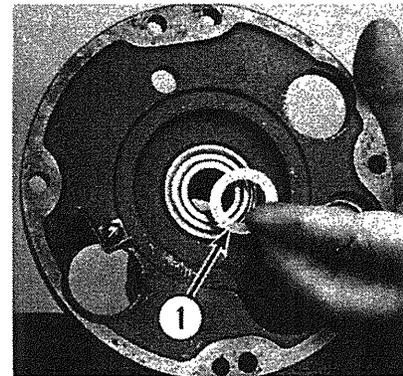

Fig. 4-5
- G. Remove bearing carrier and check for planetary shaft shims stuck to the carrier (1, Fig. 4-5). Remove and save these shims. These must be put back during reassembly.